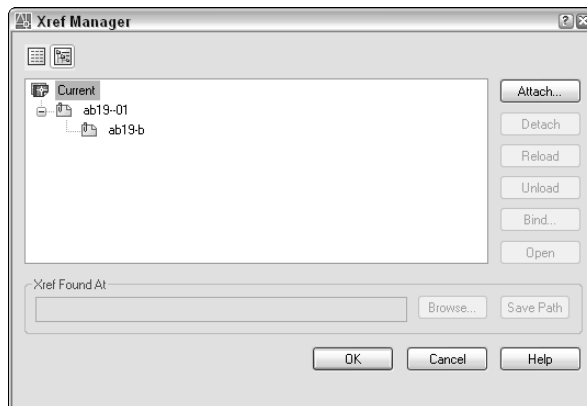

Figure 19-3: Tree view shows nested xrefs clearly.
9.  To help you visualize the relationships among the three drawings, choose External Reference from the Reference toolbar. The Xref Manager lists both drawings. Click Tree View at the top of the dialog box. You now see the two xrefs listed in a tree structure, showing their relationship more clearly, as shown in Figure 19-3. Click Cancel.